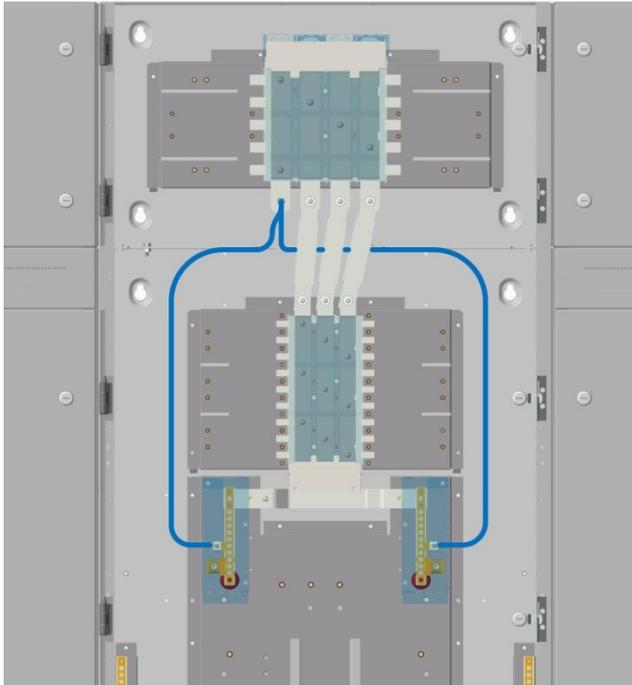

Fig. 5
- Fit 2 x 70 mm² Neutral cables with lugs from the Add-On unit Neutral busbar to the main Neutral terminal bars. Cables will need to be cut to length and have ferrules fitted. See diagram on Fig 5 for cable layout.